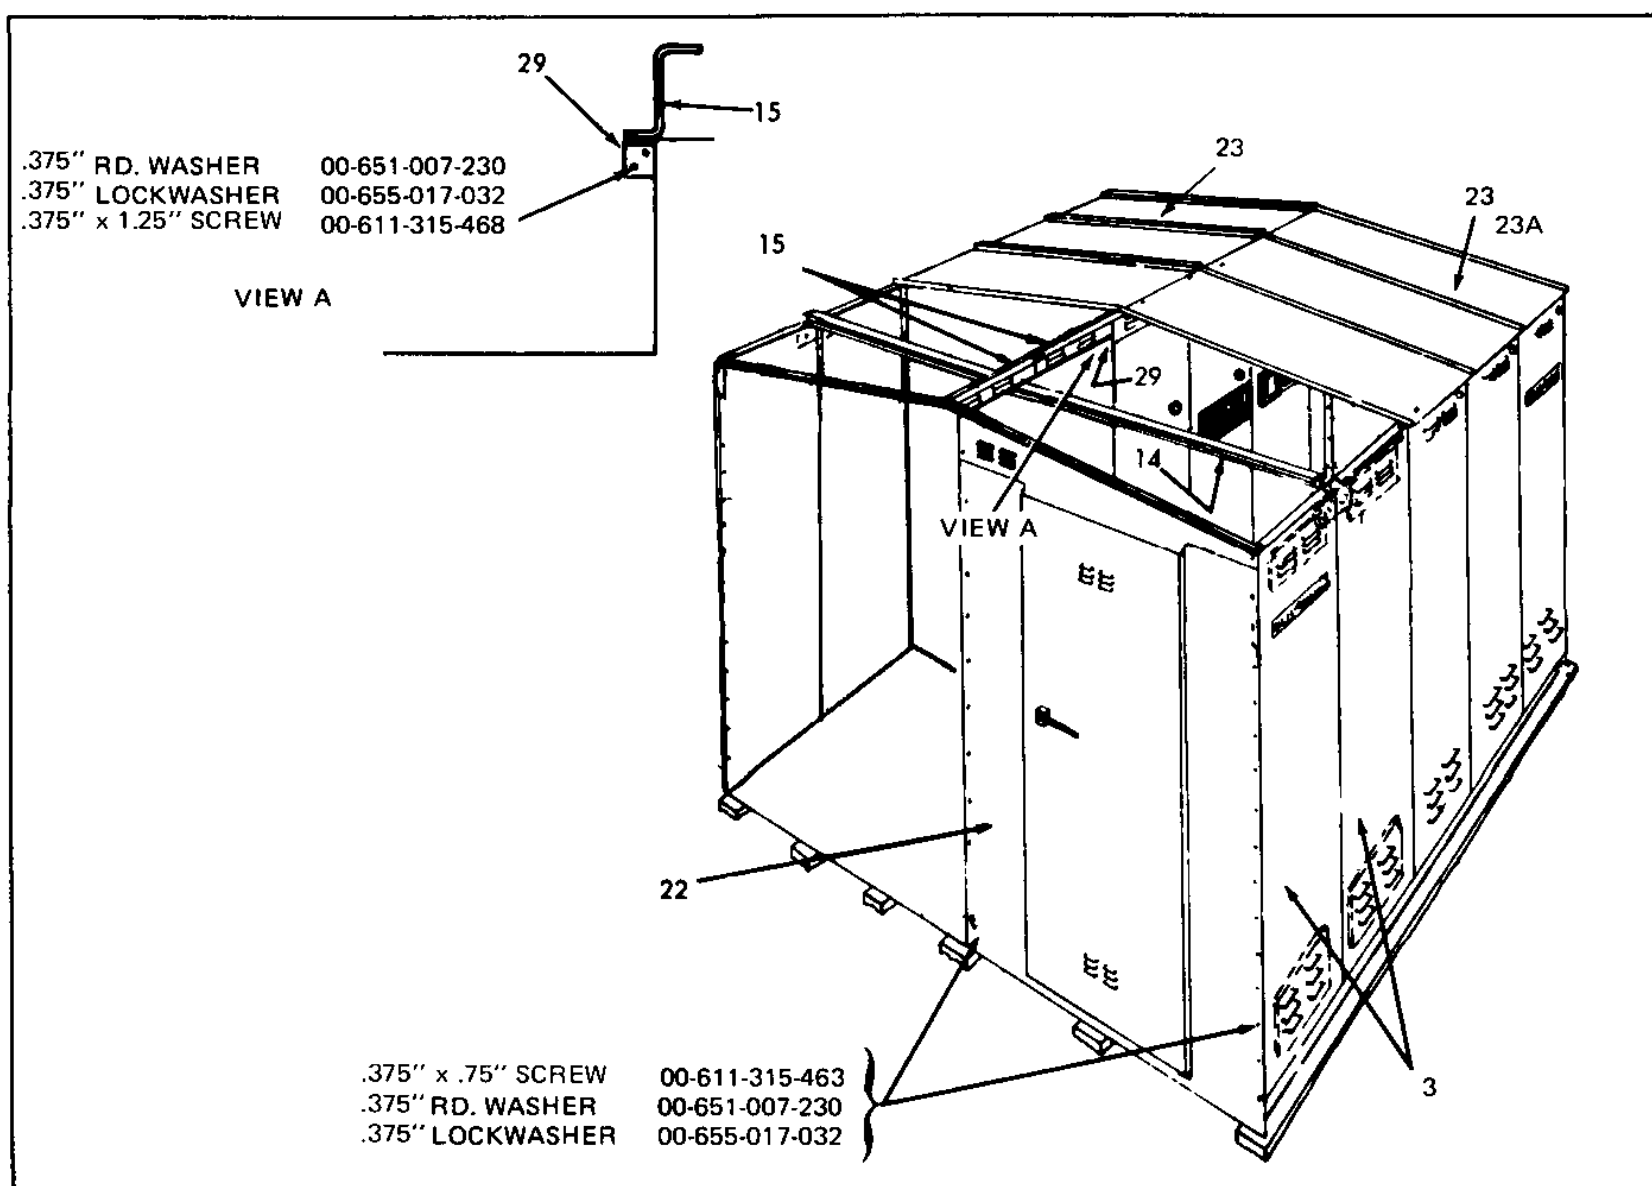

Figure 43. Door and Roof Support Installation (15 KV) – Single Aisle with Work Space
13. See Figure 43. Position and bolt the door frame assembly (22) into place. Apply .50-inch sealant tape so that one edge is on vertical center-line of mounting holes and other edge is toward point of weather exposure.